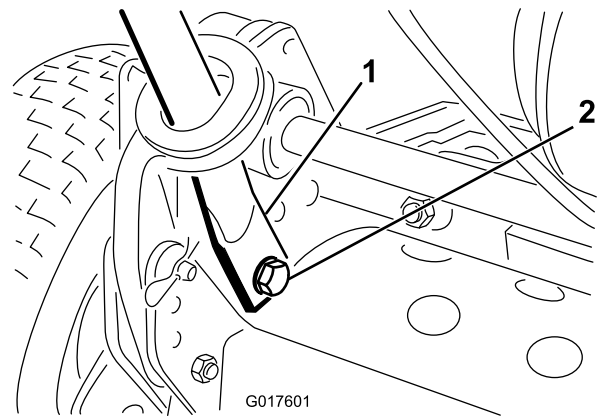

Figure 3
4. Squeeze the handle ends inward and install them on the mounting pins (Figure 3).
5. Secure the handle ends to the mounting pins with the bolts, washers, and lockwashers previously removed (Figure 3).
6. Secure the handle arms to the rear of the frame with the hairpin cottes and the ring pins previously removed (Figure 3).